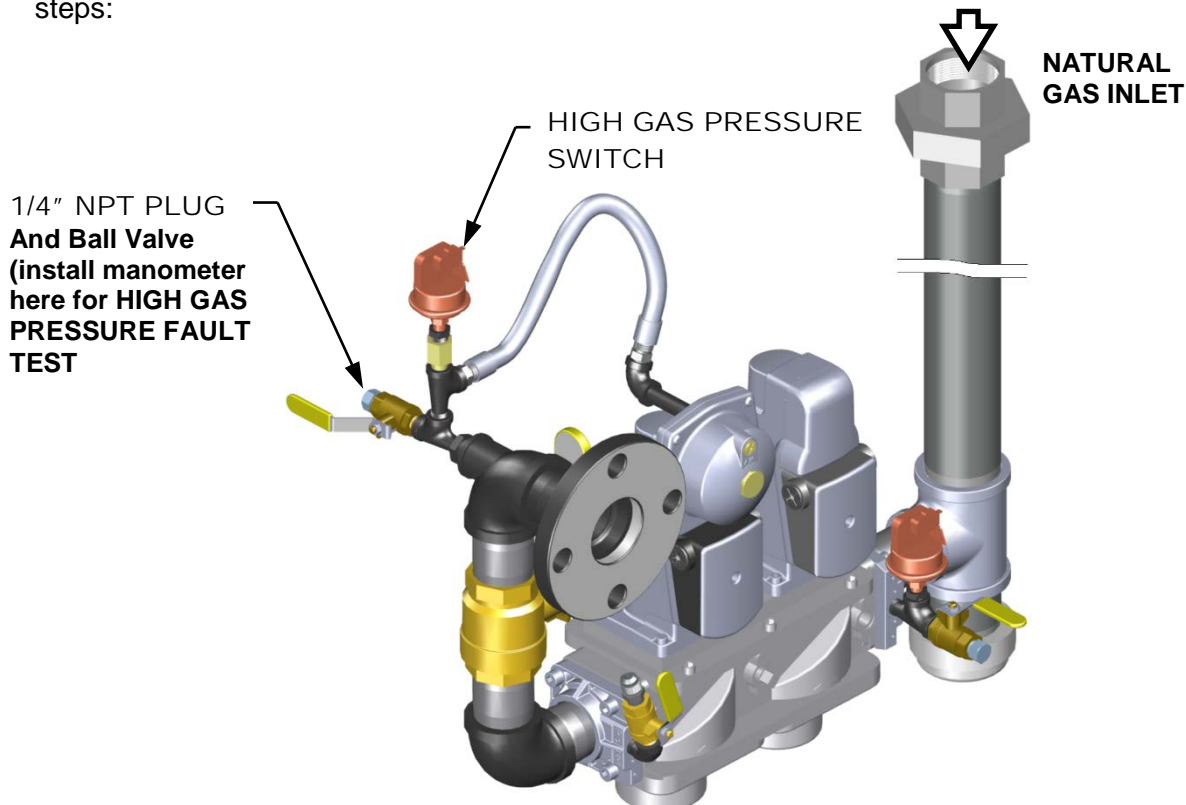

Figure 6-2a: BMK 2500: **High Gas Pressure Fault Test**
To simulate a high gas pressure fault, refer to Figure 6-2a and 6-2b and perform the following steps:
2. Remove the 1/4" NPT plug from the High Gas pressure leak detection ball valve shown in Figure 6-2a and 6-2b.